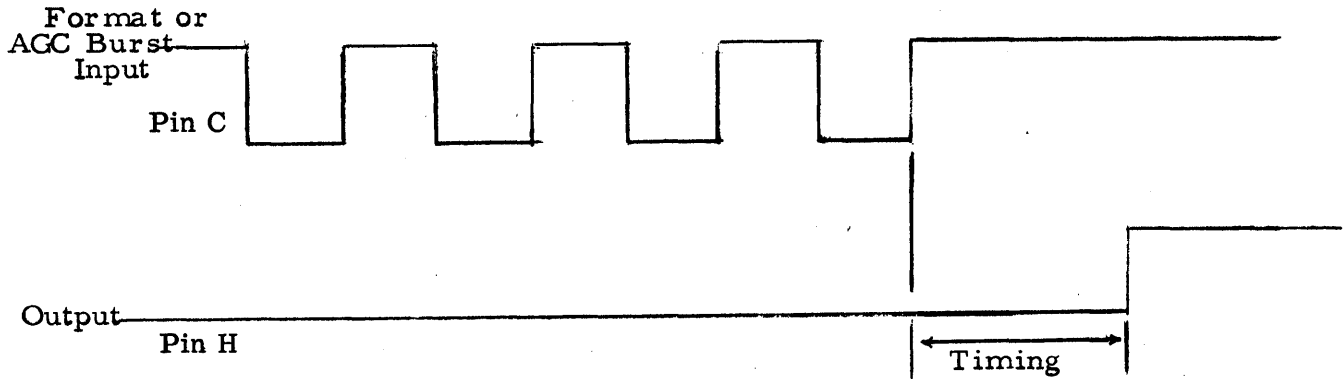

FIGURE AI-6 SINGLE SHOT TIMING
- A. Run in Format Write operation, using the appropriate diagnostic program; perform the format operation and loop on format write check while adjusting long and short gap single shots, refer to Figure AI-6 and Table AI-2. Sync scope on index holdover at B1-C17-B.
- B. Proceed with Format Write and loop on write check of HAO while adjusting data gap. Refer to Figure AI-6 and Table AI-2.